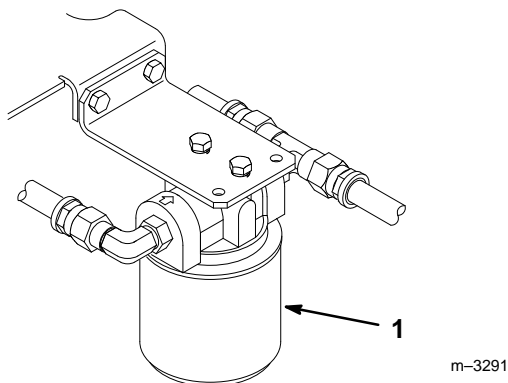

Figure 28
- Place drain pan under filter, remove the old filter and wipe the filter adapter gasket surface clean (Fig. 28).